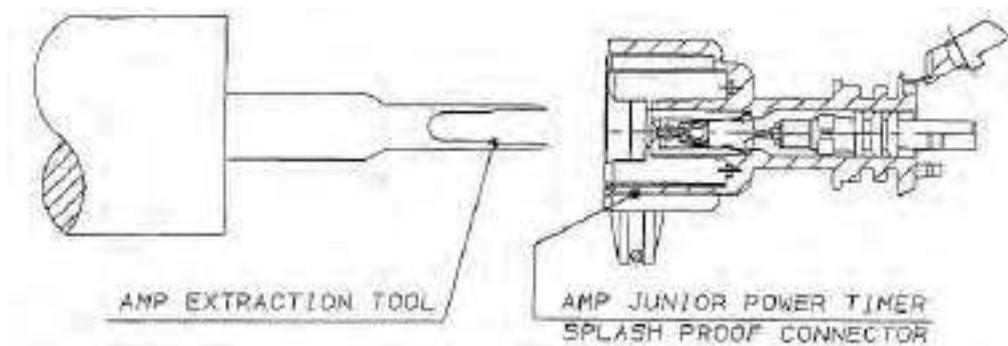

Figure 96
e. Holding wire assembly with the other hand, gently insert extraction blade into cavity until the fork shifts the latching system as shown in Figure 96.